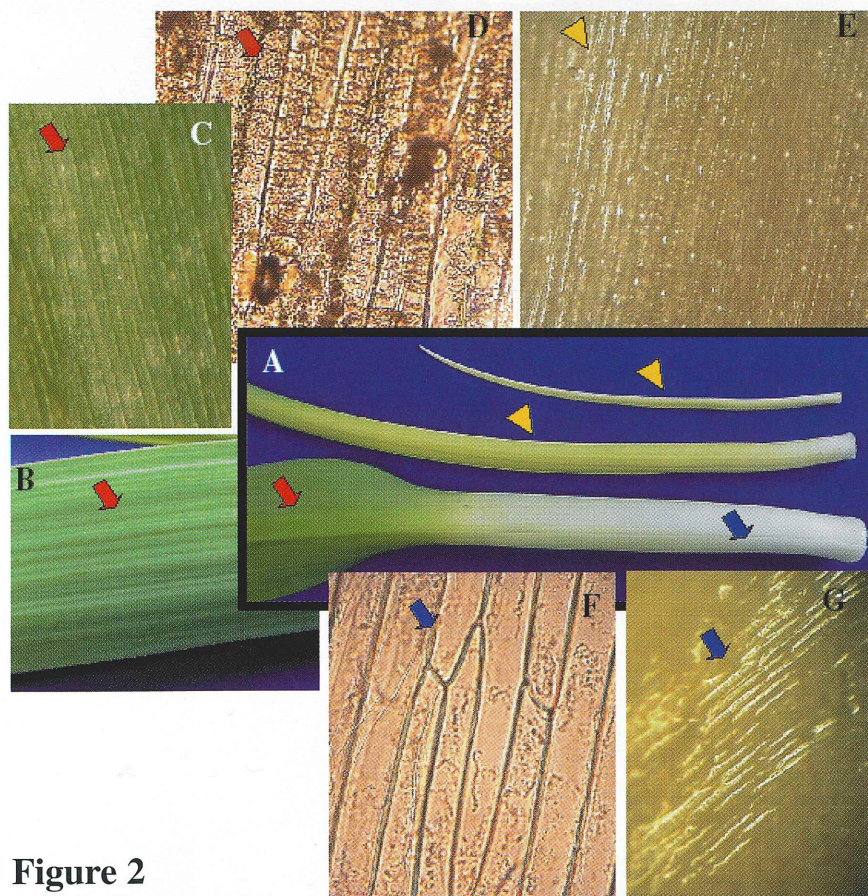

Figure 2
Figure 1 – Observations of EW on leek (*Allium porrum* L.) plants. (A) Leek plant obtained from a grocery store. Observe the white culm formed by overlapping leaf sheaths and the green leaf blades. (B) Leek plant grown in the greenhouse for 2-3 months. Notice the area of the leaf where the EWs were brushed off (triangle). (C) Demonstration of the water repellent properties of EWs. Droplets form and run off leaf surfaces. (D) Piece of leaf blade with a surface area extracted with chloroform (arrow). (E) Epidermis peel of the blade piece in C under the microscope. Compare the chloroform-extracted area (arrow) to the surrounding, non-extracted blade areas (arrowhead). (F) Non-extracted blade area under the stereoscope (4X) has a glaucous appearance due to the presence of microcrystalline EWs on its surface. (G) Detail of chloroform-extracted epidermis peel. Compare to non-extracted blade peel in Fig. 2 D and sheath epidermal peel in Fig. 2 F. (H) Chloroform-extracted blade surface, under the stereoscope (4X), lost its glaucous appearance.
Figure 2 – EWs on leek leaves at different developmental stages. (A) From top to bottom of picture - succession of a leaf primordia, totally covered by other leaves inside the culm, developing young leaf, partially inside the culm, and external, mature leaf. A mature leaf is formed of a cylindrical sheath (blue arrow) and a ribbon-like blade (red arrow); the boundary between them is established by the ligule on the adaxial surface of the leaf (not shown). (B) and (C) Details of glaucous blade surface observed with the naked eye and under stereoscope (4X), respectively. (D) Blade epidermis peel under light microscope (40X) showing EW deposition and stomata. (E) Young leaf blade surface (yellow arrows) is very shiny, similar to the sheath surface shown in (G), both under stereoscope (4X). Notice the stomata as small white dots on the young leaf surface and the lack of stomata on the sheath surface. (F) Sheath epidermis peel under light microscope (40X) with no stomata and very little EW deposition compared to D and Fig. 1 G.
5. Observe and compare the EWs on leek leaves at different developmental stages. Cabbage heads (huge buds) can also be used for this purpose. Successively older leaves are found at the surface of the culm in leek. Get access to and observe EWs on younger leaves by peeling several external leek leaves (Fig. 2 A). Students are encouraged to discuss the influences of both developmental stage and environmental cues on EW synthesis and deposition in
leek. The younger leaves (Fig. 2 A, yellow arrowhead) do not show the waxy bloom of the mature leaves (Fig. 2 A, red arrow). Beside the developmental stage of the leaves, the microenvironment of low light and higher relative humidity inside the culm contribute to low EW synthesis and deposition. On the other hand, sheaths and blades are exposing their surfaces to different environments. Sheaths are found underground, far from light and under high relative humidity, therefore they practically do not have a microcrystalline wax bloom. Leaf blades, however are fully exposed to the atmosphere and sunlight, environmental conditions that increase EW synthesis and deposition, therefore the blade's glaucous appearance.
1. Observe different surfaces of leek leaf with a stereoscope. Young leaf surfaces (Fig. 2 E) look shiny, similar to the leaf sheath surfaces (Fig. 2 G). By contrast, the leaf blade surfaces show the bluish waxy bloom (Fig. 2 B, C).
3. Peel the blade epidermis and observe under the microscope. To obtain an epidermal peel from the leek leaf, make a shallow transversal incision with a razor blade on the surface of the leaf. Grab the edge of the incision with fine-pointed forceps and pull along the long axis of the leaf. Place the epidermal peel on a slide in a drop of water under a cover slip and observe with a light microscope. Notice the presence and high abundance of EW formations on the blade epidermal surface (Fig. 2 D) and compare to the less abundant EW deposition on the sheath epidermis (Fig. 2 F). The same difference on EW deposition can be observed between the chloroform-extracted and non-extracted epidermal surfaces (Fig. 1 E, red arrow and blue arrow, respectively; Fig. 1 G represents a detail of the chloroform-extracted area).